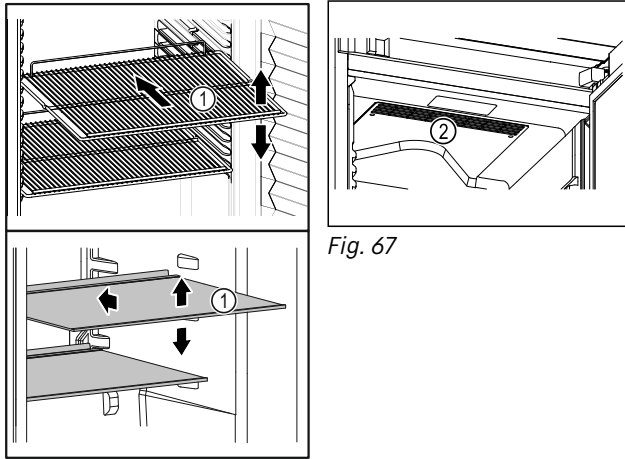

Fig. 66 Example illustration
- ❑ If shelves Fig. 66 (1) can be moved, adjust the shelves according to the height.